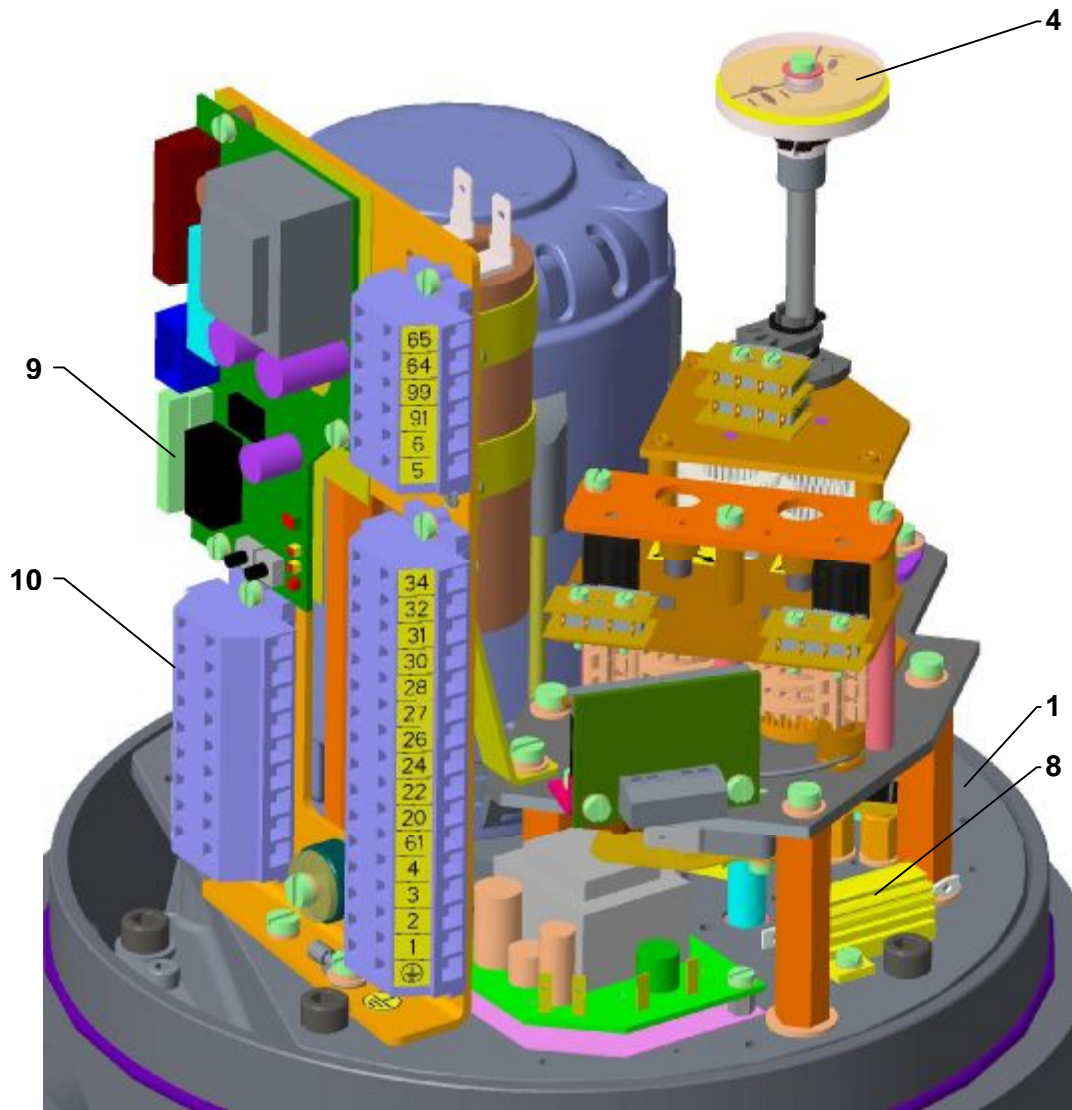

Fig.1
The **control part (Fig. 1, 1a)** is placed on a control board (1) consisting of:
- electric motor (2) (at single-phase version with capacitor)
- torque unit (5) (controlled with a worm axial shift)
- position-signaling unit (3) with a position transmitter (6) and with a mechanical local position indicator (4)
- space heater (8) with thermal switch (7)
- electronic module (contoller) (9)
- electrical connection through terminal boxes (10), located in the control area and cable glands Ex d version with direct entry with compound filling around cable cores
- relays of torque switch S1 or S2 (ReS11, ReS12) (12) – customized version